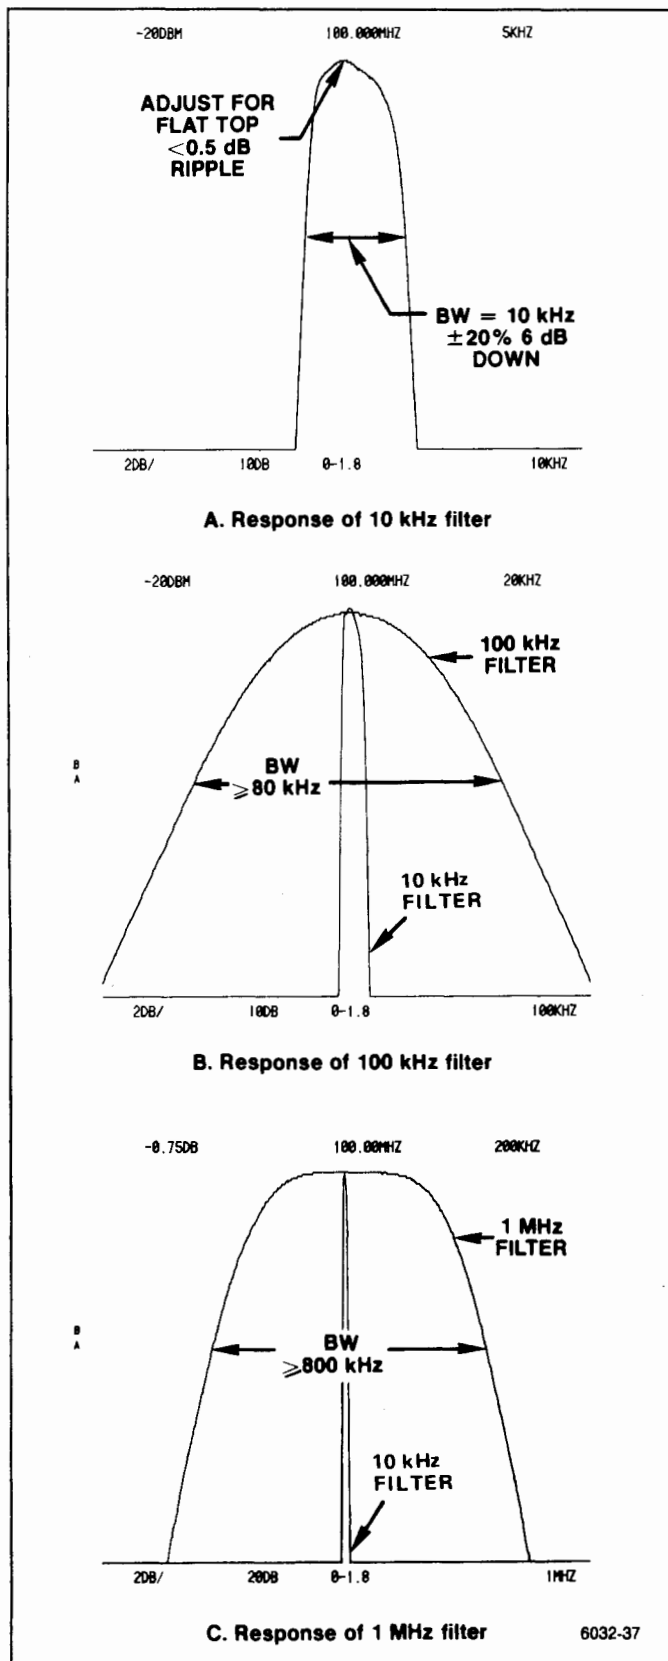

Figure 5-20. 10 kHz, 100 kHz, and 1 MHz filter response.
- q. Check the waveshape, bandwidth, and centering of all filters. If necessary, make only fine or minor adjustments. Figure 5-20 shows typical response shapes.
- (1) Set the FREQ SPAN/DIV to 500 kHz, RESOLUTION BANDWIDTH to 100 kHz, and REF LEVEL to -20 dBm.
- (2) Adjust all filters to the 100 kHz level as per the following table. Change FREQ SPAN/DIV as necessary to maintain a suitable display.